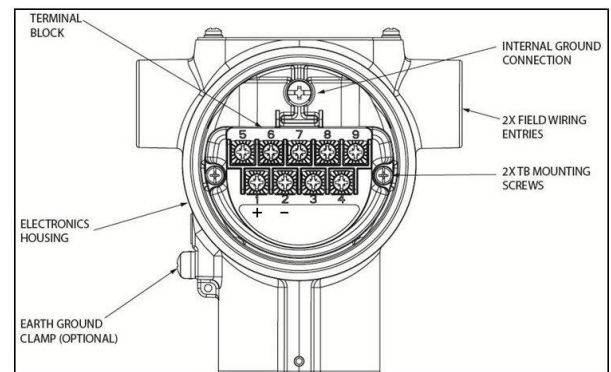

Figure 8: Terminal Block and Grounding Screw location
Loop wiring is connected to the transmitter by attaching the positive (+) and negative (-) loop wires to the positive (+) and negative (-) terminals on the transmitter terminal block in the electronics housing shown in Figure 8. Connect the loop power wiring shield to earth ground only at the power supply end.
1	See Figure 8, for parts locations.
- See Figure 8, for parts locations. Loosen the end cap lock using a 1.5 mm Allen wrench.
A wire from the earth ground clamp (ref. **Figure 8**) of transmitter must be connected to earth ground to make the lightning protection effective. Use a size 8 AWG or (8.37mm²) bare or green covered wire for this connection.